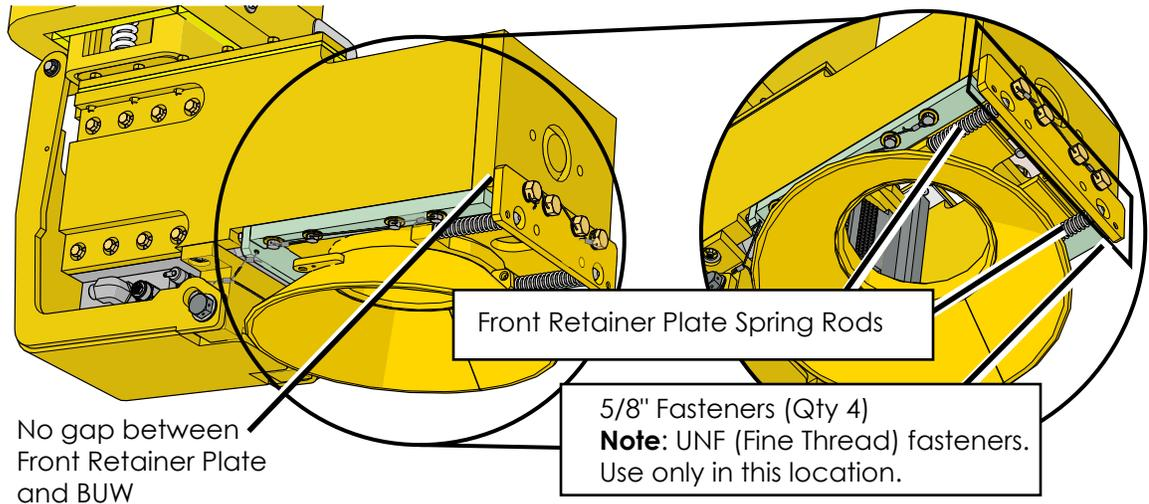

Figure 16: Re-attaching the Front Retainer Plate
5. Ensure there is no gap between the front retainer plate and Back-Up Wrench frame. See Figure 16.